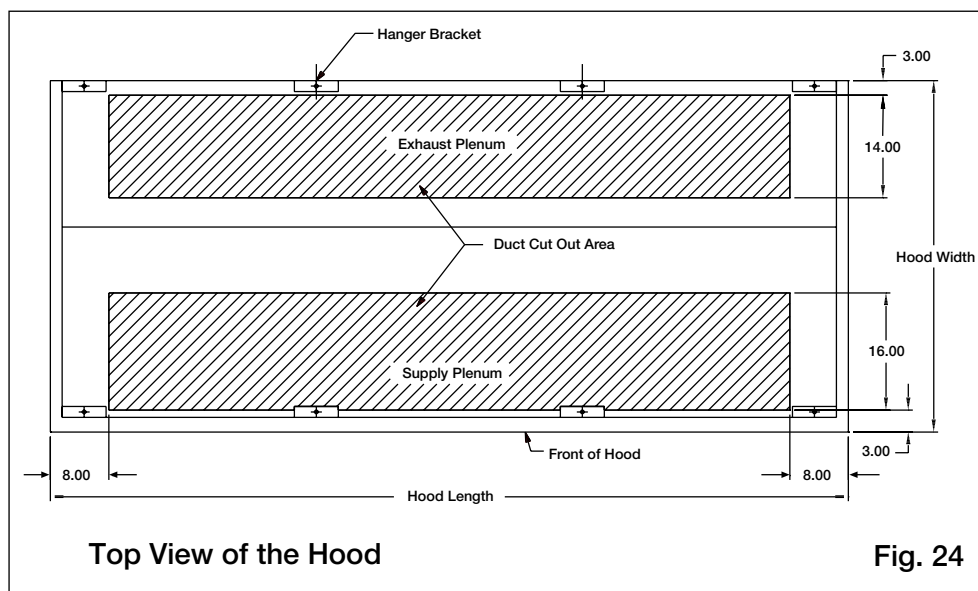
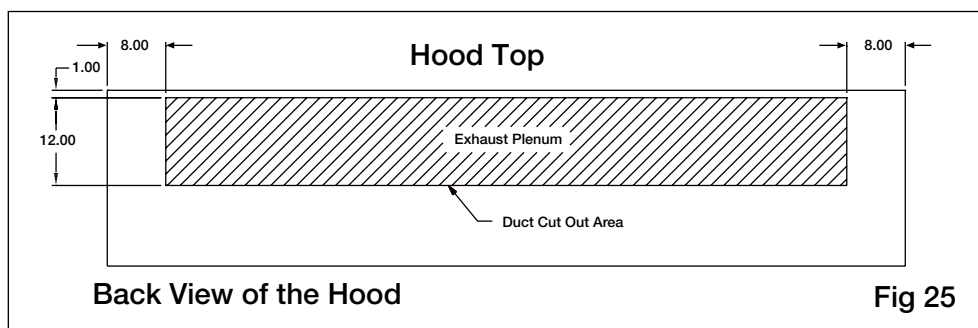

Fig. 24
Fig. 25
1. The exhaust duct connection needs to be located within 48 in. (121.92 cm) from the center of the hood length to the center of the duct connection. (see Fig. 24, back view Fig. 25)